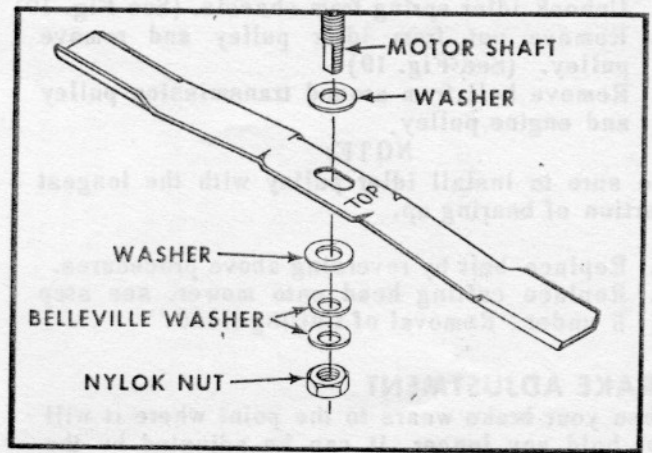

FIG. 15
4. Place new blade properly on the motor shaft (The word "TOP" is stamped on all blades to assure proper installation). Secure blade with nut and washers previously removed. (See Fig. 15)